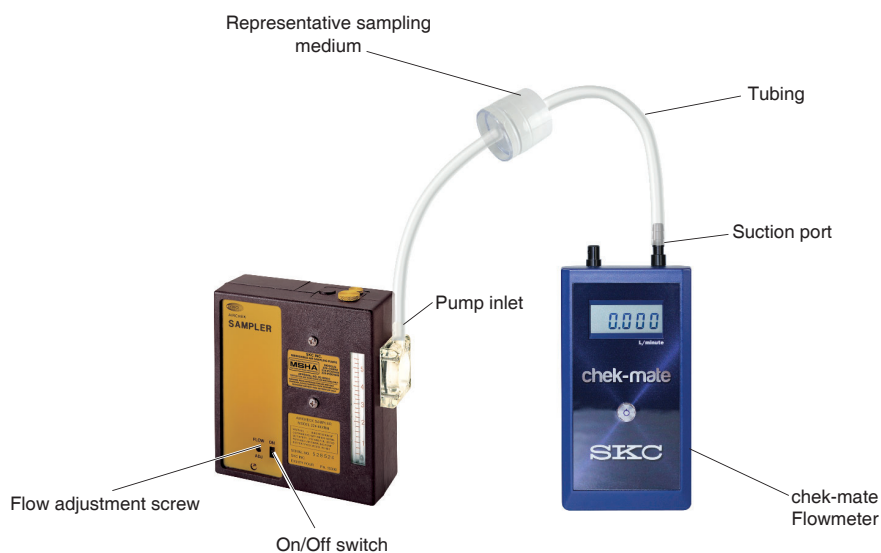

Figure 2. Flow Rate Verification Train with Filter Cassette
3. Set up a flow rate verification train (*Figure 2*): Using flexible tubing, connect the flowmeter outlet (suction port) to the representative sampling medium inlet. Using 1/4-inch Tygon tubing, connect the representative sampling medium outlet to the pump inlet (*Figure 2*).
- a. Turn on the pump and reinstate the flow rate verification train (Figure 2).
1. Start the pump using the on/off switch (Figure 2), and adjust the flow rate by turning the flow adjustment screw (Figure 2) until the built-in rotameter reads approximately 1.5 L/min.
2. Remove the cap screw covering the regulator valve (Figure 2) and turn the exposed screw four to five turns **counterclockwise**.
3. Start sampling by turning on the pump using the on/off switch (*Figure 2*), and record the start time.